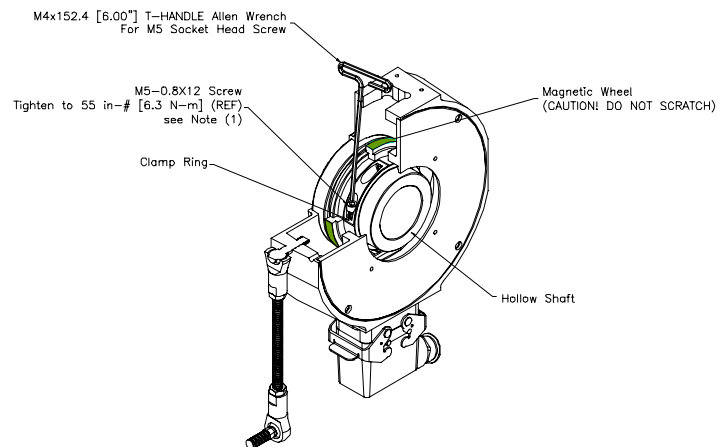

Figure 3: Clamping Ring Segment
Figure 3: Clamping Ring Segment.....	7
4. Tighten the clamping ring segment as follows (see Figure 3):
- 2) Being very careful not to damage the magnetic pulse wheel (black disk, see Figure 3 below), tighten down both mounting screws using the M4 T-Handle hex wrench (included). Torque each mounting screw to 55 in-lbs (6.3 N-M regular) nominal, while ensuring gaps on both radial ends of clamping ring segment are approximately equal.